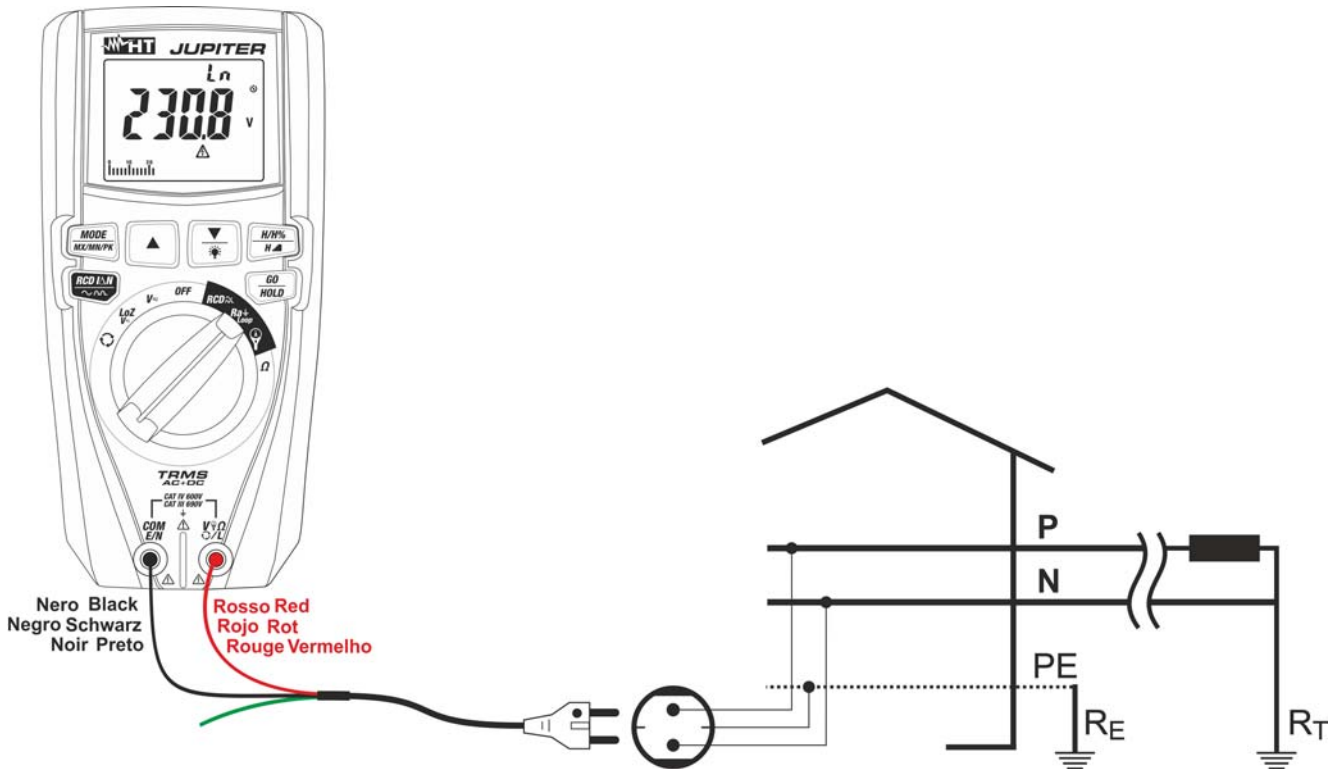

Fig. 25: Use of the instrument for measuring Loop L-N impedance with cable provided with Schuko plug
7. **For Loop L-N measurements**, in case the cable with Shuko plug is used, insert the red conductor into input terminal $V_{\Omega} \text{ L}$ and the black conductor into input terminal **COM/E/N** and connect the instrument to the system to be tested (see Fig. 25). The value of phase-to-neutral voltage is shown on the display